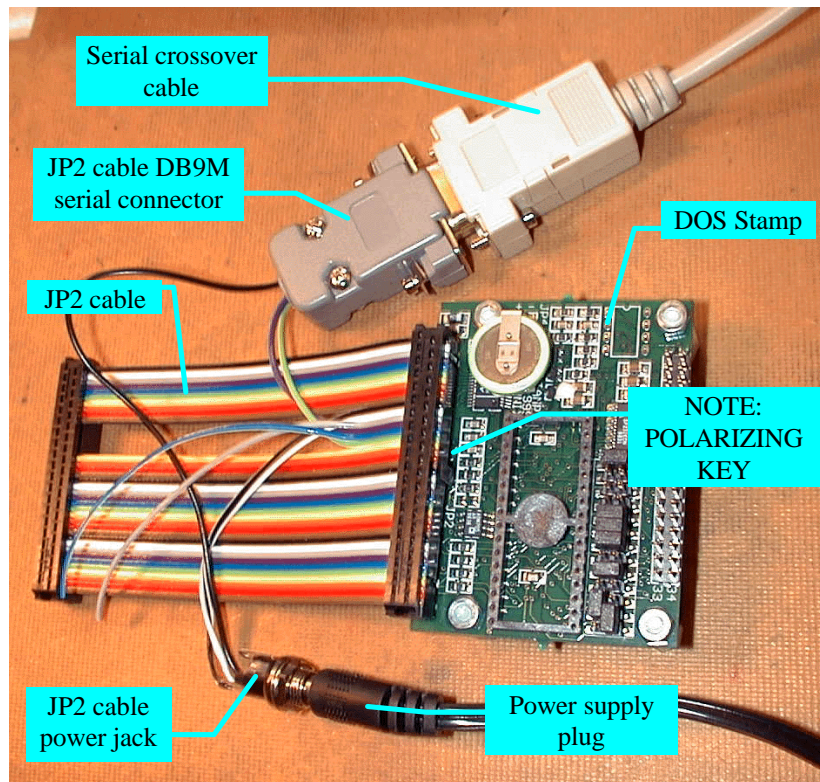

Fig. 2-1: DOS Stamp™ Development Setup
- 2) Connect the JP2 cable to the JP2 header as shown in Figure 2-1. The polarizing key should point toward the middle of the PCB.
- 3) Connect the JP2 cable DB9M connector to one end of the serial crossover cable as shown in Figure 2-1.